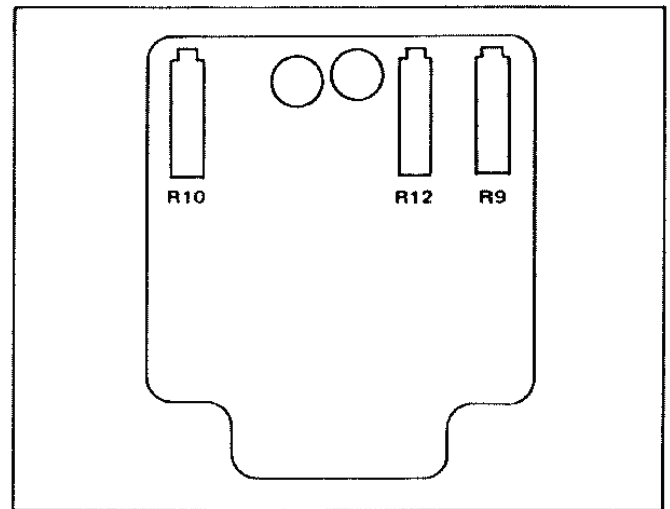

Figure 5.9 - 4-Wire Ratio Adjustment Locations
- Adjust R12 on 4-Wire Ratio board for a readout of -10.0000 (figure 5.9).